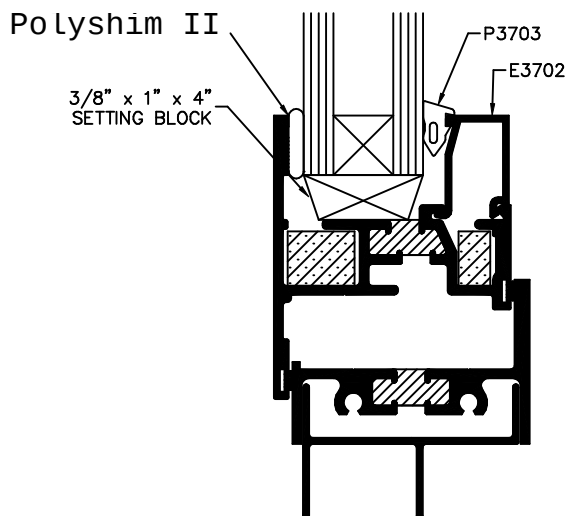

FIGURE 2
1. APPLY TREMCO BUTYL GLAZING TAPE CONTINUOUS TO SASH AS INDICATED IN FIGURES 2 AND 3. BACK UP JOINTS WITH 6" LONG TOE BEAD OF BUTYL SEALANT.
2. INSTALL $3/8" \times 1"$ SETTING BLOCKS AT $1/4$ POINTS AS SHOWN IN FIGURES 2 AND 3.
- A. USE E3702 FOR $1"$ GLASS (SEE FIGURE 2).